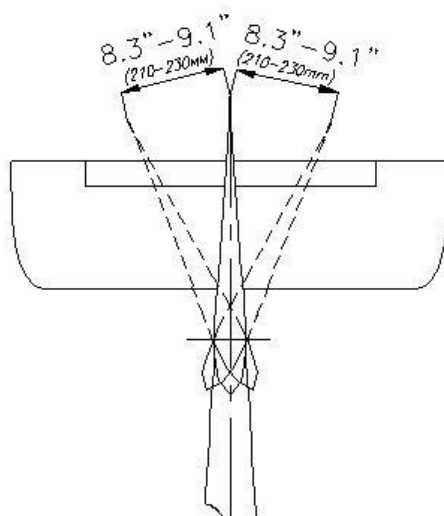

Fig. 4
- 4) Check angles of deflection (Fig. 4).
- 5) Repeat items 1 through 4 if necessary.
- The rest of the process repeats items 1 and 3 through 6.